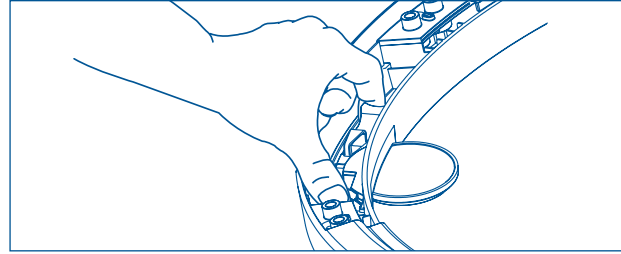

Figure 4-7.
3. Grasp the indicator on the latch side between finger and thumb and rock it upward, pivoting away from the center of the glass. (See Figure 4-7)
4. Gently push the indicator toward the center of the lens to release the tab. (See Figure 4-7)